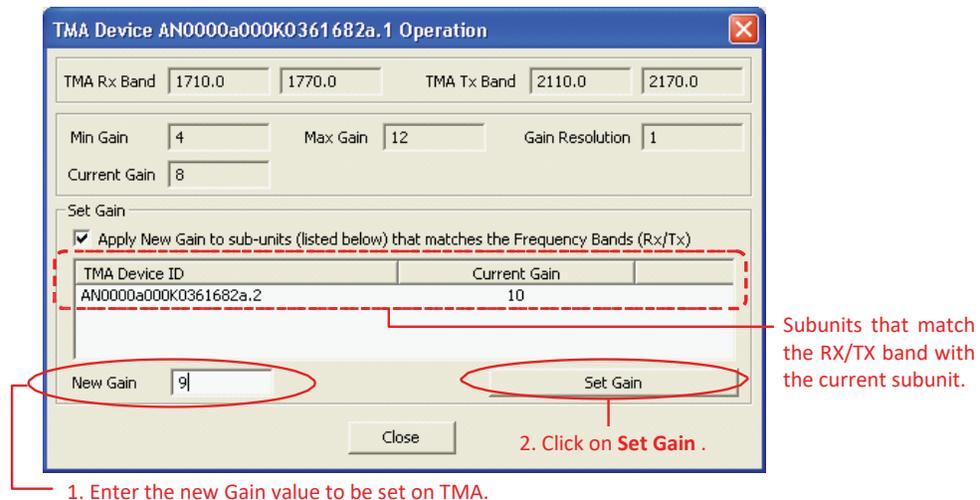

Figure 13-3. Set Gain for Variable Gain TMA
7. Open up the **TMA Device ...Operation** dialog box through step 3 for TMA which is a Variable Gain. The dialog displays relevant TMA data and enables the fields to allow the change of Gain (Figure 13-3).
Note the following in Figure 13-3: